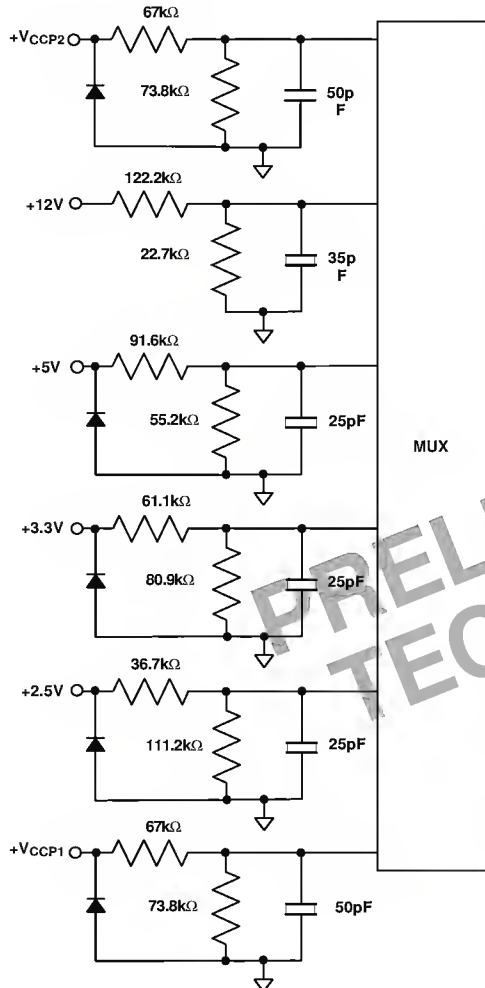

Figure 3. Structure of Analog Inputs
The input circuits for the analog inputs are shown in figure 3. Each input circuit consists of an input protection diode (except for the +12V input), an attenuator, plus a capacitor to form a first-order lowpass filter which gives the input some immunity to noise.
5. In figure 3 the resistor values are chosen so that the nominal supply voltage of -12V corresponds to approximately half-scale on the ADC. With the resistor values shown, the input voltage range is approximately -2.35 to -14.95V